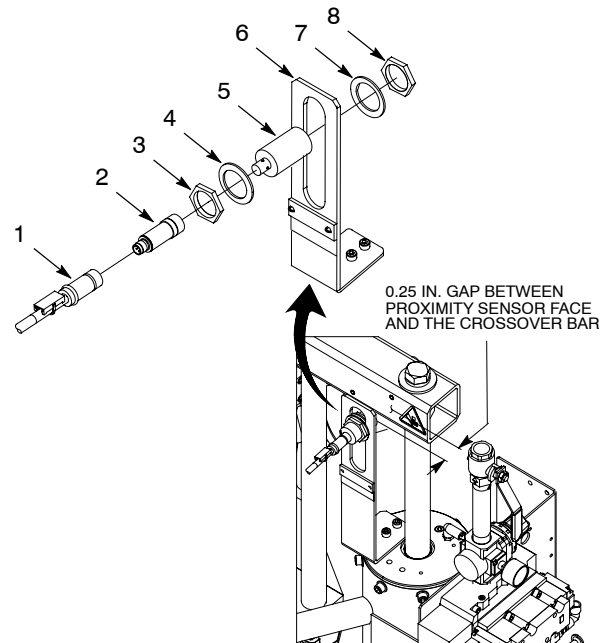

Figure 2 Replacing the Proximity Sensor
1. See Figure 2. Disconnect the control cable (1) from the PNP/NPN converter (2).
2. Disconnect the PNP/NPN converter (2) from the proximity sensor (5).
3. Mark the bracket (6) to ensure that the new sensor is properly positioned during installation.
4. Remove the nut (8) and washer (7) securing the proximity sensor (5) to the bracket (6). Remove the proximity sensor from the bracket.
- a. Install the washer (4) and nut (3) onto the new proximity sensor (5).
- b. Install the proximity sensor onto the bracket (6). Loosen or tighten the nut (3) to obtain a gap of 0.25 in. between the face of the proximity sensor and the crossover bar.
- c. Install the remaining washer (7) and nut (8) and tighten securely.
6. Connect the PNP/NPN converter (2) to the proximity sensor (5). Connect the cable (1) to the PNP/NPN converter.